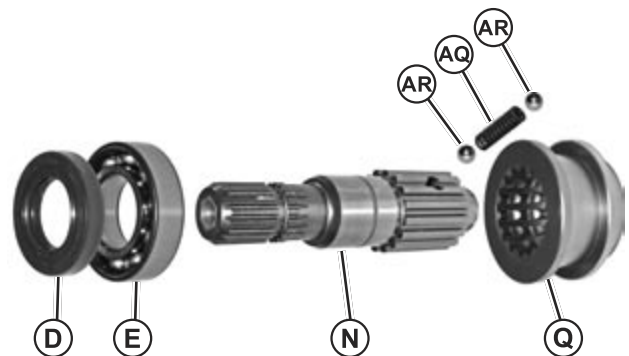

Fig. 50, 4WD Cover Removal
16. Remove the bearing (E) from the 4WD output shaft (N).
17. Carefully remove front shift collar (Q) from 4WD output shaft. As separation occurs the detent balls (AR) and spring (AQ) will become visible. (Fig. 50)
NOTE: Replace seal (D) if output shaft is removed. (Fig. 50).